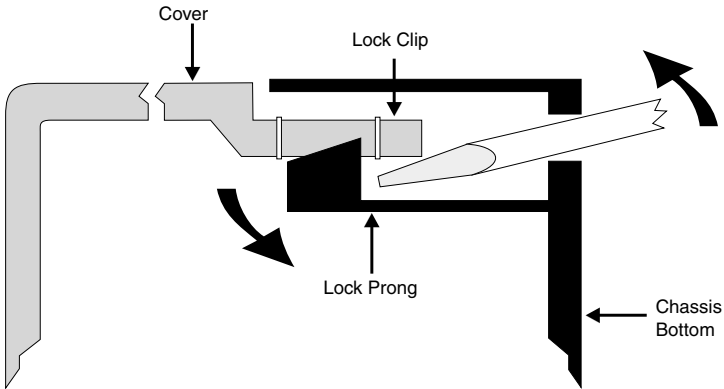

Figure 3-1
2. Insert a medium size flat screwdriver blade in one of the bottom rear latch slots. Do not push the screwdriver but lightly pry the handle away from the unit as shown in Figure 3-1. This disengages the lock prong from the latch locks.